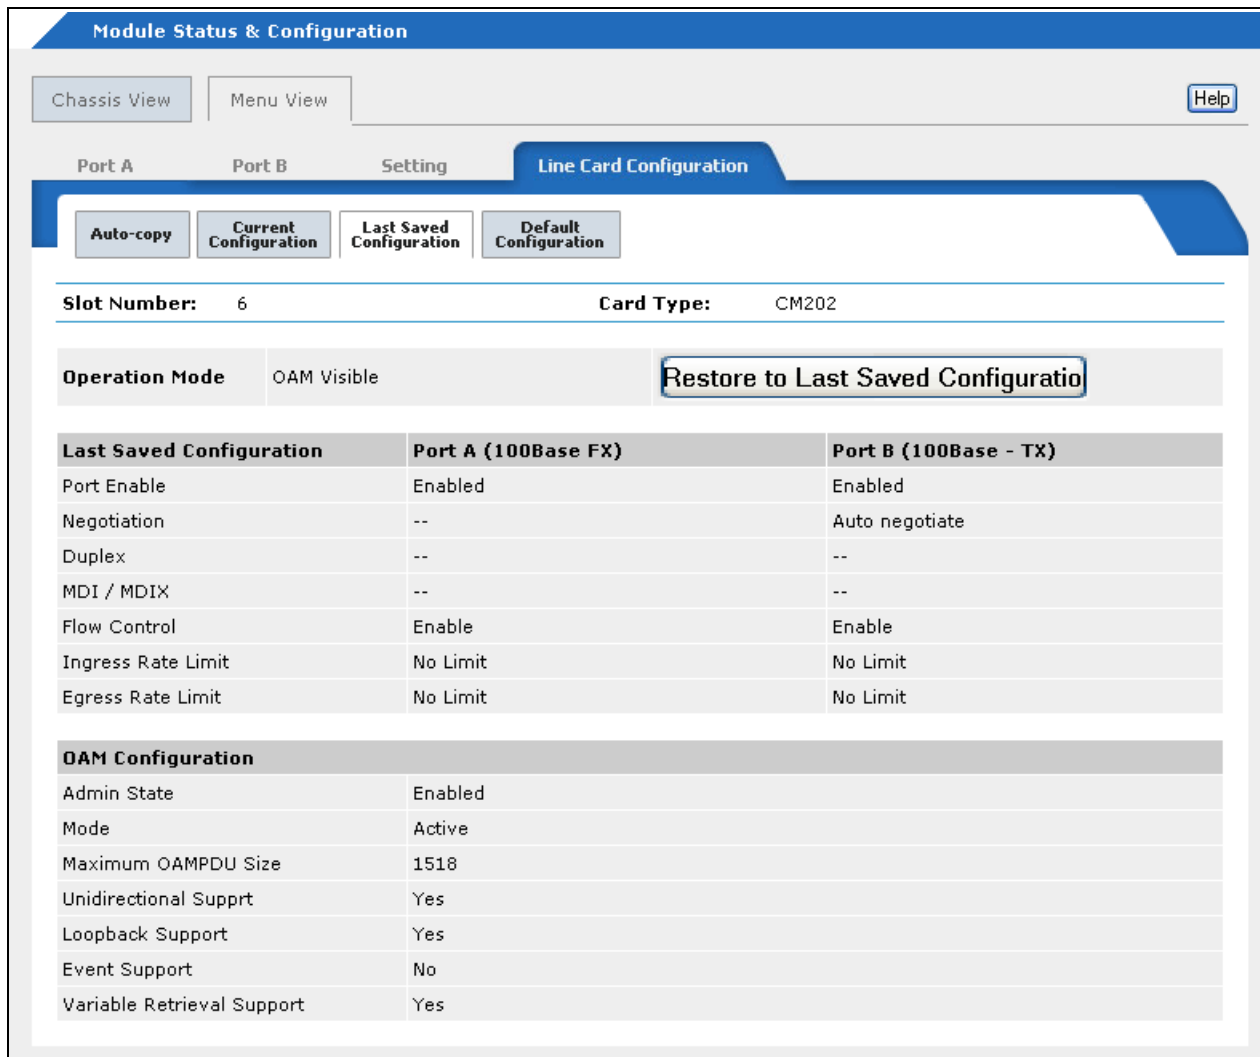

Figure 65. Last Saved Configuration Tab
4. To restore the previous configuration to the line card, select the **Last Saved Configuration** tab, shown in Figure 65.